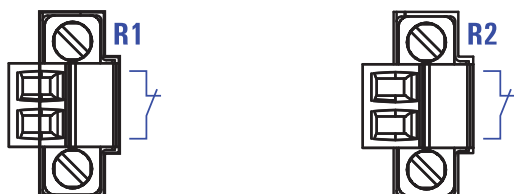

Figure 3: Pin assignment of the signal contact
- The signal contact (“FAULT”, for pin assignment of terminal block, see fig. 3) monitors the functioning of the device, thus enabling remote diagnostics. You can specify the type of function monitoring in the Management.